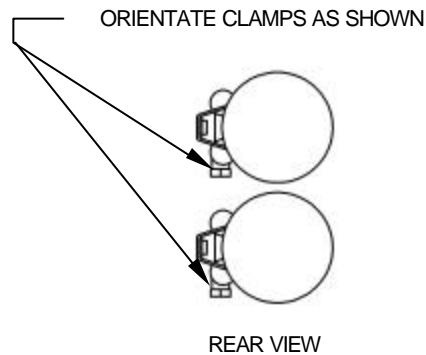

FIGURE 2
5. Slide one supplied clamp onto each muffler and position as shown in figure 2.
9. To install the front heatshield, first slide the rear portion of the heatshield over the muffler, continue to slowly slide it forward pushing the front of the shield gently into place between the frame and motor (Hint: Spread the hose clamps apart slightly to make it easier to slide them over the muffler assembly and head pipes). Make sure the muffler clamps don't interfere with the heatshields and are aligned as shown in figure 2. Snug the heatshield clamps but **do not tighten**.